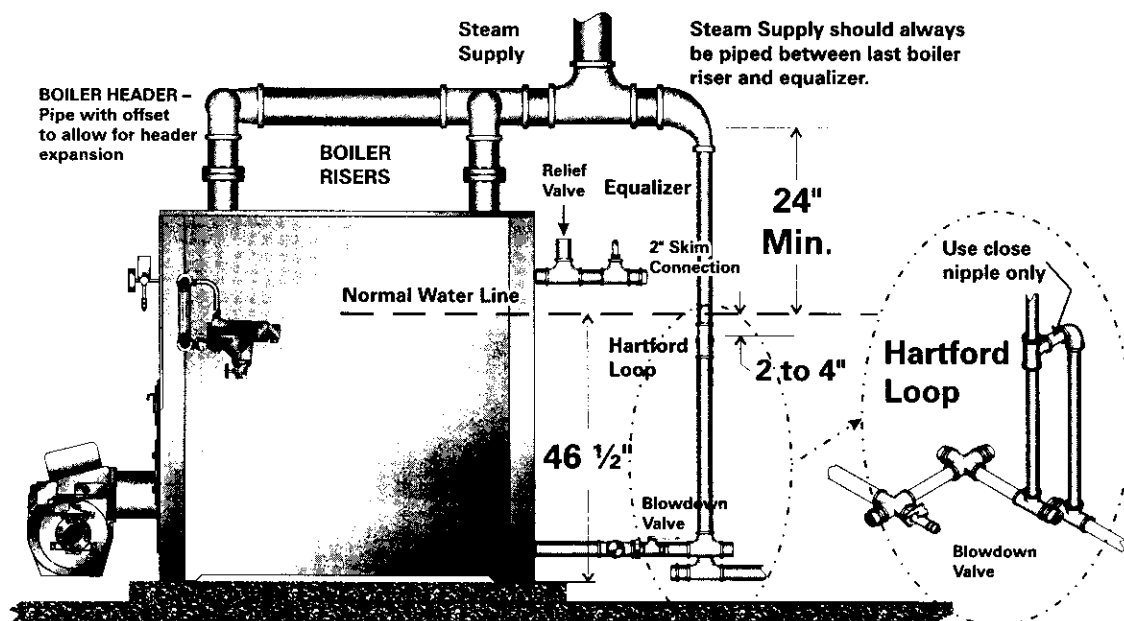

Figure 19: Supply and Return Positions, Skim Piping, Hartford Loop
3. Size the Header per Table 11. Pipe the header at least 24 inches above the normal boiler water line. See Figure 19. This is required to prevent water from carrying over into the header and then to the system.
1. The use of a Hartford loop is recommended in all installations. See Figure 19. The loop provides additional reliability for the system.
5. Pipe the Hartford loop tee so the inside top of the close nipple is 2 to 4 inches below the normal boiler water line. See Figure 19.